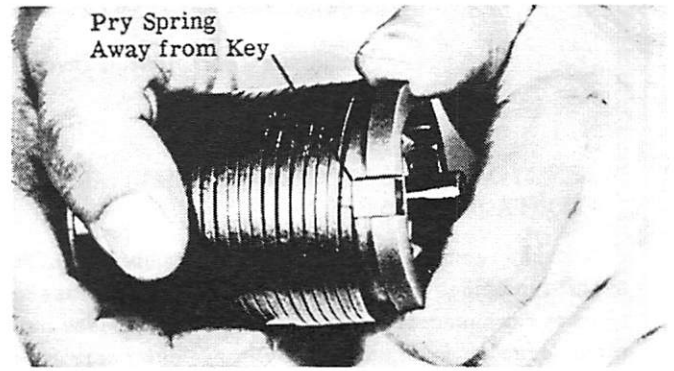

Figure 6. Removing and Installing Forward-Reverse Spring on Trunnion Carrier
B. Reverse-Forward Spring: To disassemble complete transmission, grasp shoulder of trunnion carrier in palm of one hand and input drum and gear assembly in other hand. (Figure 6) Turn trunnion carrier
B. Replacing Forward and Reverse Spring: Place forward and reverse spring on trunnion carrier assembly, inserting end opposite of trip finger. Turn in counterclockwise rotation (Figure 6) so spring unwraps itself and slides on easily. Turn down until spring end contacts spring catch key and is seated.